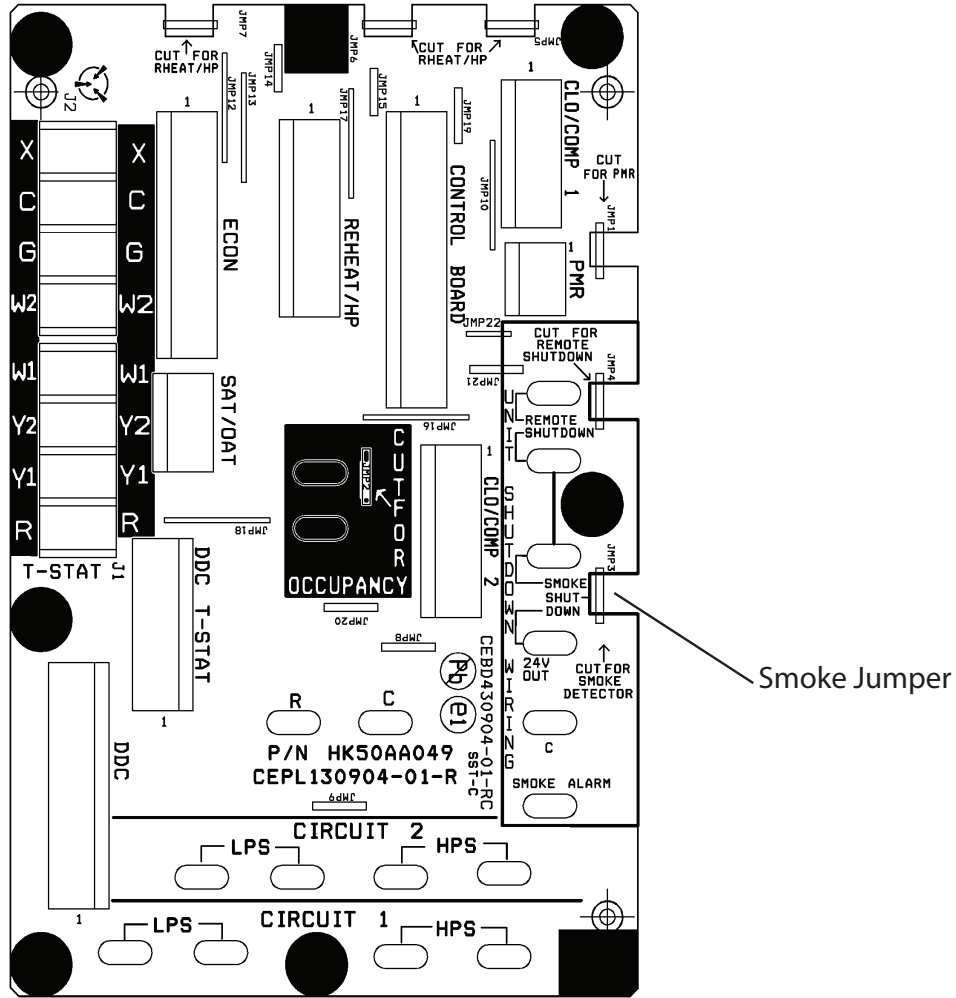

Fig. 6 - Central Terminal Board
6. Using two #8 screws, mount assembly into pre-drilled holes located next to central terminal board oriented as shown in diagram. (See Fig. 6.)
8. Cut smoke detector jumper on control terminal board as shown in Fig. 6.